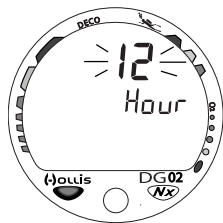

Fig. 23 - Set Hour Format
- While the Surface Sequence is scrolling, depress the button until the Set Hour Format screen appears with the Set Point flashing (Fig. 23), then release the button; or when the screen appears after having set Units.